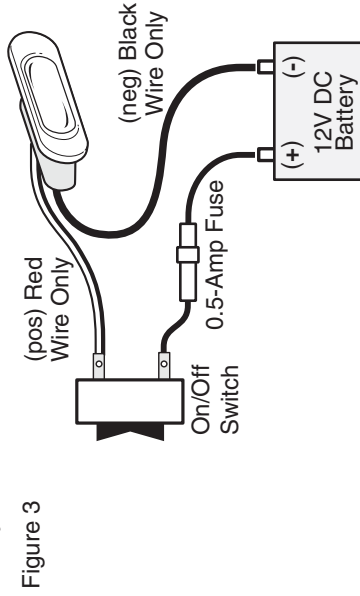

Figure 3
Connect to 12-Volt DC power source ONLY. All positive wires must be protected by a 0.5-amp fuse. Higher voltage or failure to make proper wire and fuse connections will void the product warranty (Figure 3). Use crimp-type marine-grade connectors with suitable insulation.
1. Connect positive pole of 12VDC battery to red wire, 0.5-amp fuse, and switch (Figure 3).